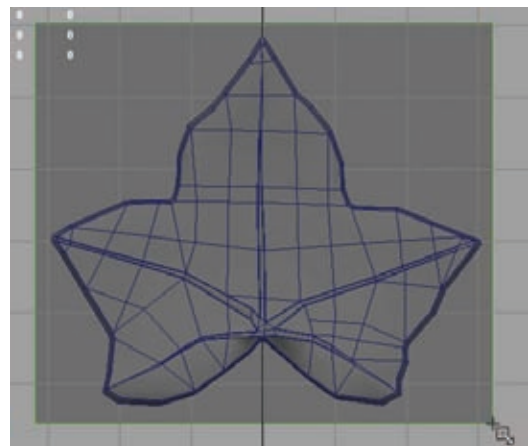

Figure 2.7
1. Create a polygon plane by going to Create → Polygon Primitives → Plane. Switch to the Side view to view the leaf head-on and left-click and drag to create the plane surrounding the area the leaf is within (Figure 2.7).